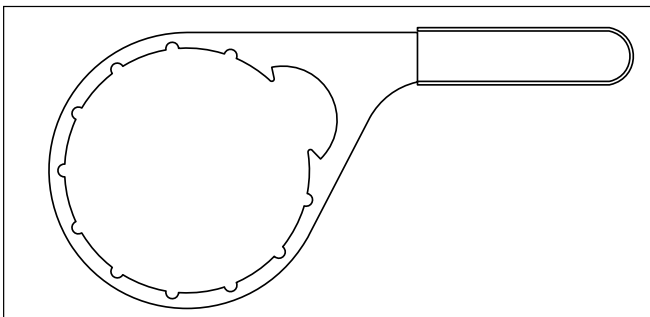

Figure 13 – Collar Wrench
3. Using the collar wrench loosen the collar. (See Figure 13) Remove the clear cover and collar from the Industrial Pro. Discard the cover O-ring and install a new O-ring (supplied with the filter) on the cover. Clean the threads on the collar and body of the Industrial Pro.